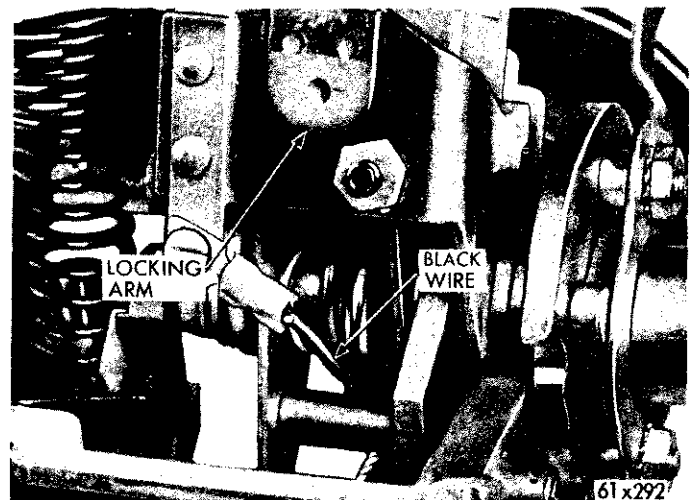

Fig. 20—Remove Black Wire from Locking Arm Contact Point #2
(4) Disconnect the black motor wire from the terminal on the locking arm contact point #2 (Fig. 20).
(5) Remove the nuts attaching the motor to the housing and remove the motor.